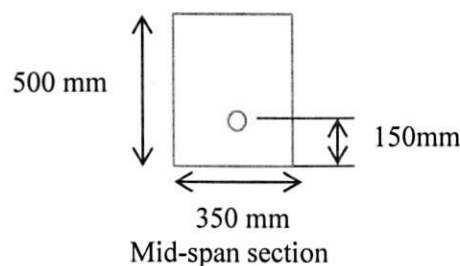

Figure: 2
2. (a) A post-tensioned concrete rectangular beam 400 mm by 500 mm has a simple span of 15 m and it is prestressed with 1152 mm^2 steel which is made up of 6 tendons. The tendons are tensioned one after another to the stress of 1200 MPa. If $E_{ci} = 48500 \text{ MPa}$ and $E_s = 290000 \text{ MPa}$, Compute the loss of prestress due to the elastic shortening of concrete. (5)
- (b) A prestressed-concrete rectangular beam 350 mm×500 mm as shown in **Figure: 2** has a simple span of 10 m and is loaded by a uniform load of 35 kN/m excluding its own weight. The prestressing tendon is located as shown in the **Figure: 2** and it produces an effective prestress of 1050 kN. Using the internal resisting couple method find out the fiber stresses at the midspan section. (10)